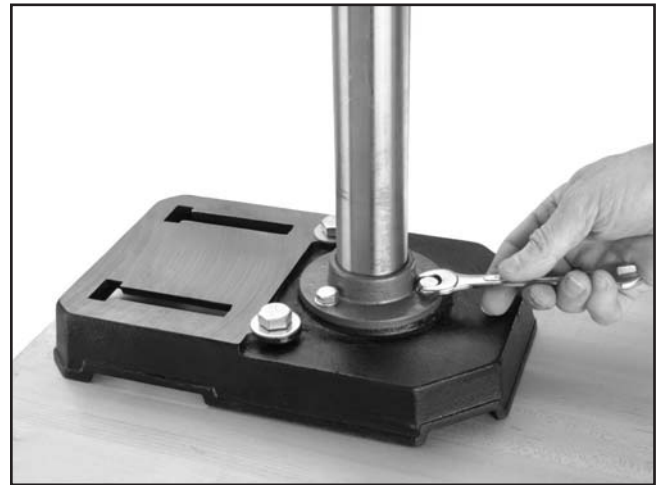

Figure 7. Installing column support.
3. Place the column on the base and line up the mounting holes. Insert an 8mm flat washer and an M8-1.25 x 20 hex bolt in each column support hole and tighten, as shown in **Figure 7**.